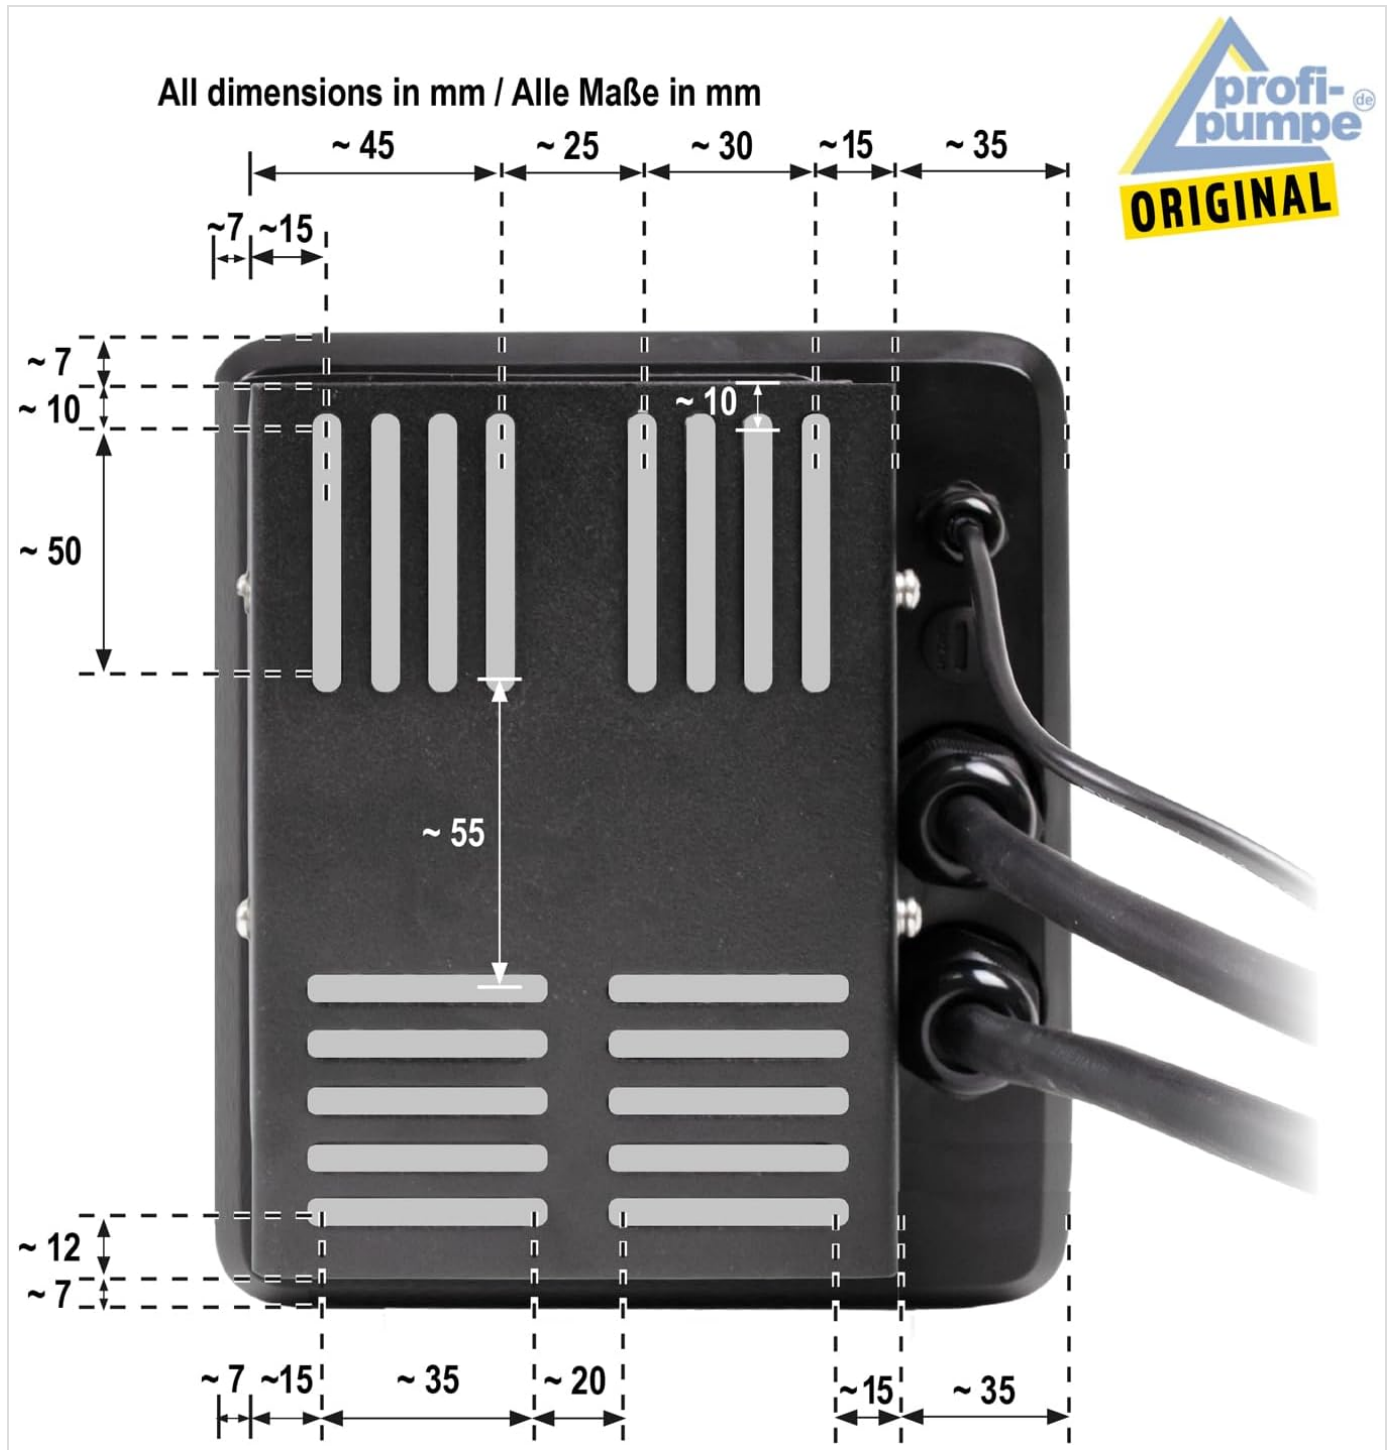

Figure 3: Bottom view of the controller showing mounting hole positions and dimensions in millimeters for secure installation.
2. Use the dimensions provided in Figure 3 to mark and drill mounting holes.